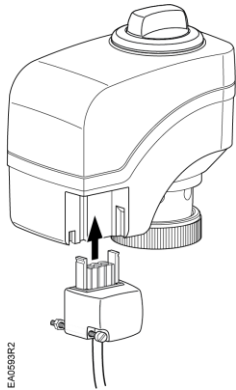

Figure 4.
- Place the terminal connector and plug into the actuator, fitting the nut into the recess in the bottom of the actuator. See Figure 4.